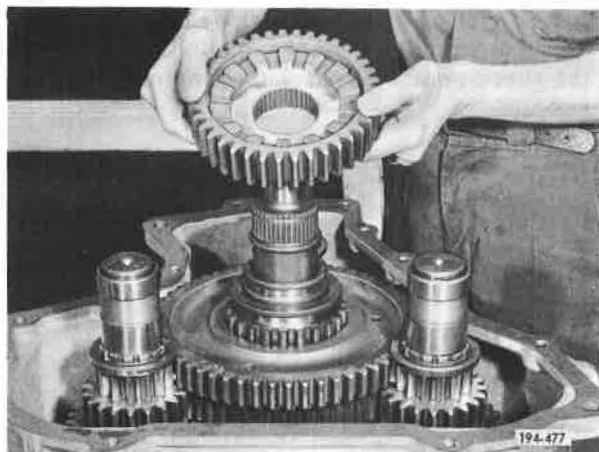

Figure 5-586. Removing Lo-Range Main Drive Gear
2. Remove Lo-range main drive gear. See Figure 5-586.